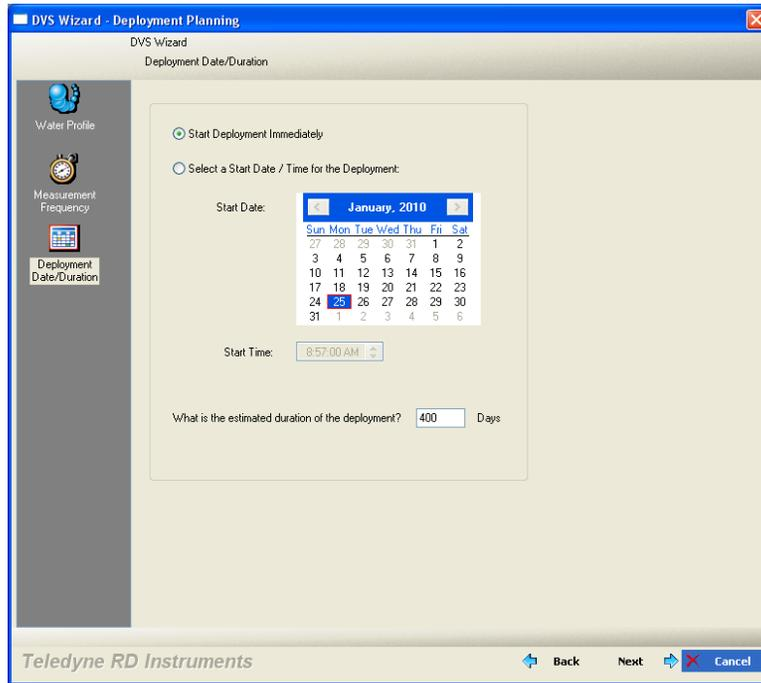

Figure 13. DVS Wizard – Deployment Date/Duration
- Enter the expected duration of the DVS deployment from the time of the first water profiling ping (either immediately or first ping date/time, see Figure 13). This duration *does not* produce a command to instruct the DVS to stop data collection; it is for estimating consequences only. This duration is used to estimate the following *consequences*: Battery Power usage, and Storage required. Click **Next** to continue.